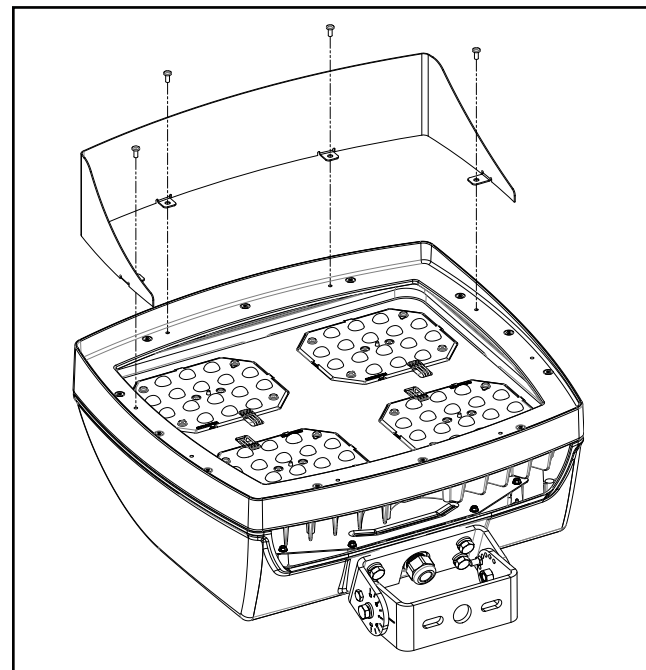

Figure 6.
Visor (Figure 6.)
1. Align visor on top of lens frame matching the four existing holes. (Figure 6.)